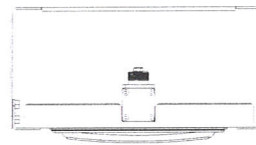

Figure 6
- ☞ The mount bracket is for surface mounting to ceiling (Figure 6).